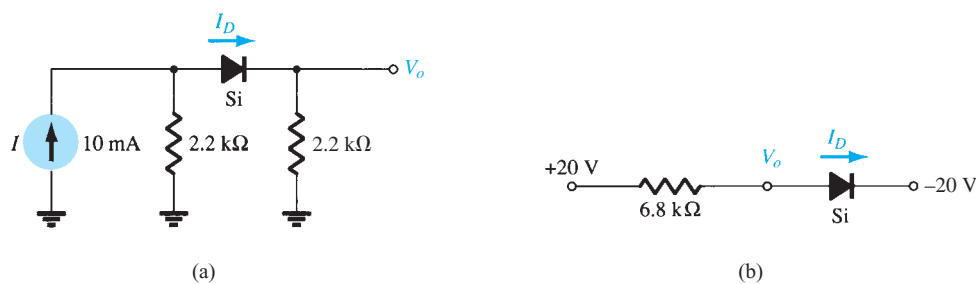

FIG. 2.158
- *8. Determine V_o and I_D for the networks of Fig. 2.158.